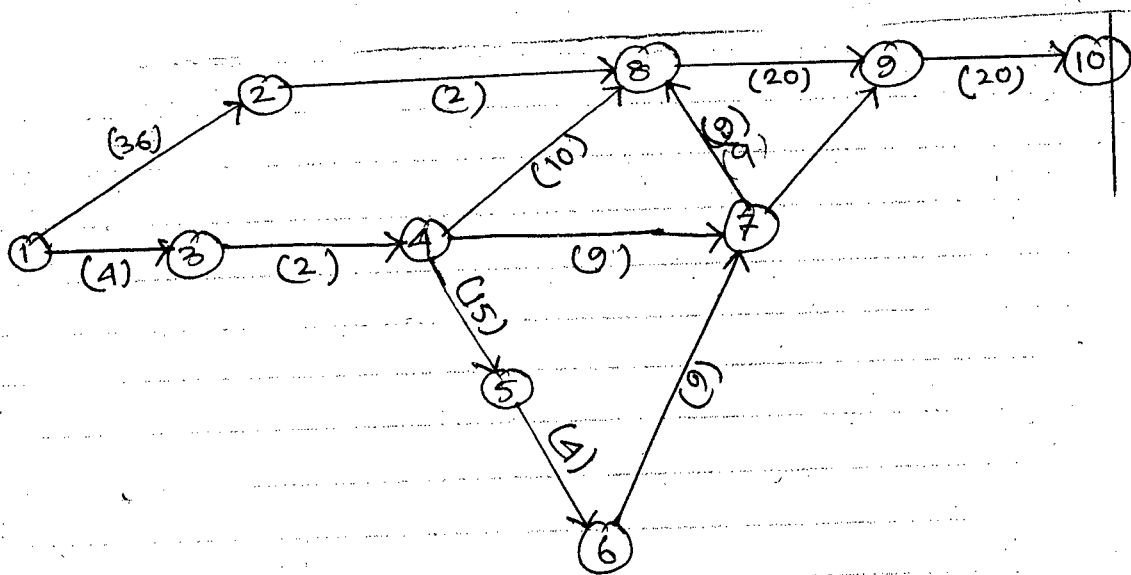

Figure-2
3. (a) Explain the tendering process with a flow diagram. Differentiate between "single" and "two stage" tendering. (10)
- (b) What are the steps to follow to make a construction site safe? Give some examples of personal protective equipments in construction site. (10)
4. The network of a construction project is shown in Figure-2, along with the duration of each activity. Compute activity time and total Float of each activity. Locate the critical path on the network. (20)